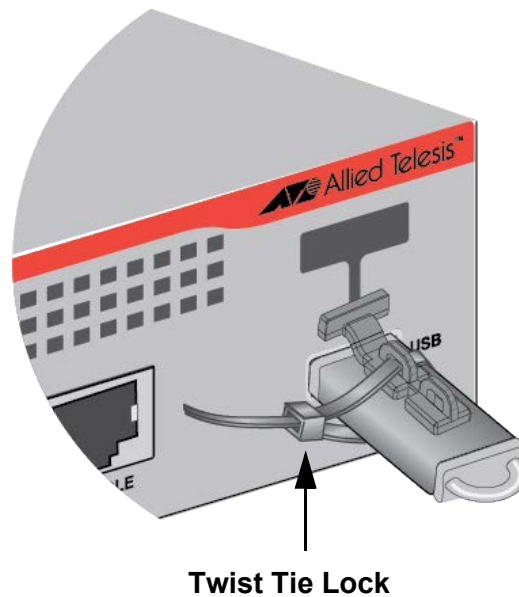

Figure 61. Securing the USB Device with a Twist Tie
5. To secure the device with twist ties, wrap a tie around the device and insert the end into the hole on the retainer and twist tie lock. Refer to Figure 61.